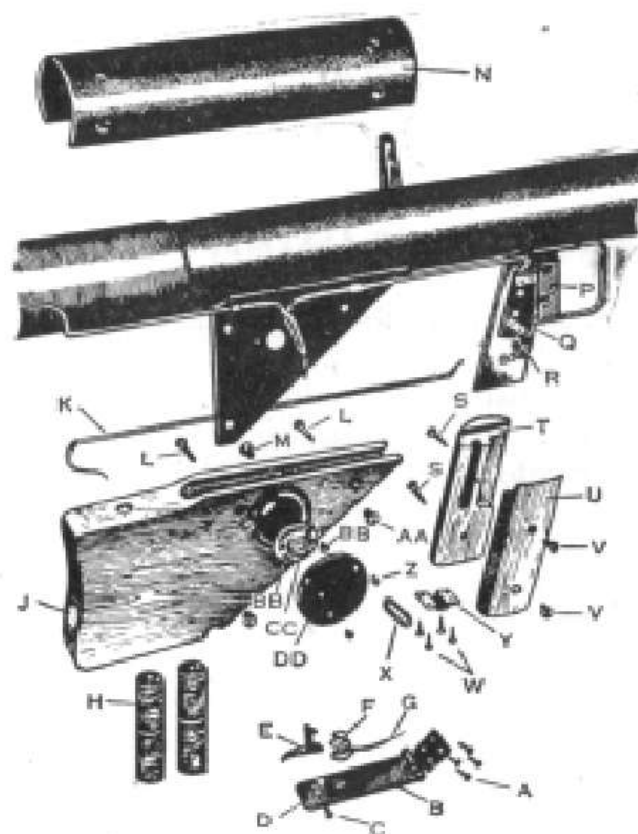

Figure 55. Stock and grip group, launcher M1A1.
b. Disassembly launcher M1A1 (fig. 55, 56, and 57).
- (1) Unscrew the screw from the flash deflector mounting clamp and remove the deflector.
- (2) Disconnect the sling from the sling loops on the launcher.
- (3) Unscrew the screws and remove the sling bracket from the trigger grips. Unscrew the screws on the left trigger grip and remove the trigger grips. Remove the cotter pin, withdraw the trigger pin, and remove the trigger. Break the soldered connection between the wire and the lower switch contact support. Pry the conduit with the wire loose from the clips on the left side of the stock support.
- (4) Unscrew the screws from the circuit indicator cover. Remove the cover and break the soldered wire connection. Remove the spare bulb and the socket assembly with bulb.
- (5) Open the hasp on the under side of the stock and remove the batteries. Remove the four screws from the hasp and remove the hasp. Break the soldered connection between the wire and the bottom of the stock support. Slide the stock off the support.
- (6) Press down on tail latch body remove cotter pin and tail latch pivot pin, and carefully withdraw the tail latch spring.